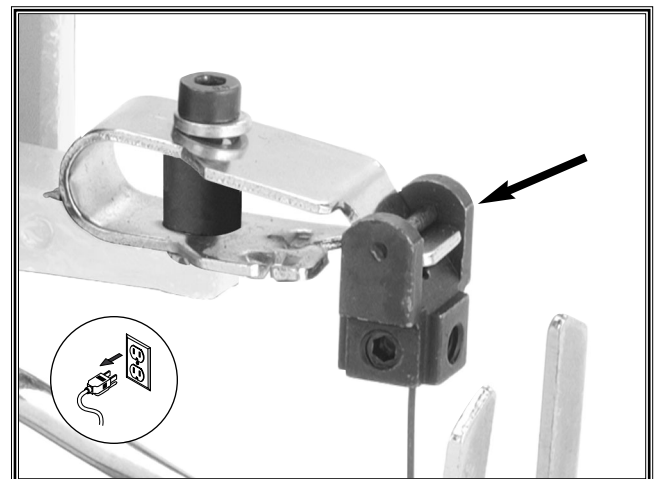

Figure 7. Blade adapter on the upper blade holder.
7. Slide the lower blade adapter over the mounting arm of the lower blade holder. Then, press the upper blade holder downward and slide the upper blade adapter over the mounting arm of the upper blade holder (**Figure 7**).